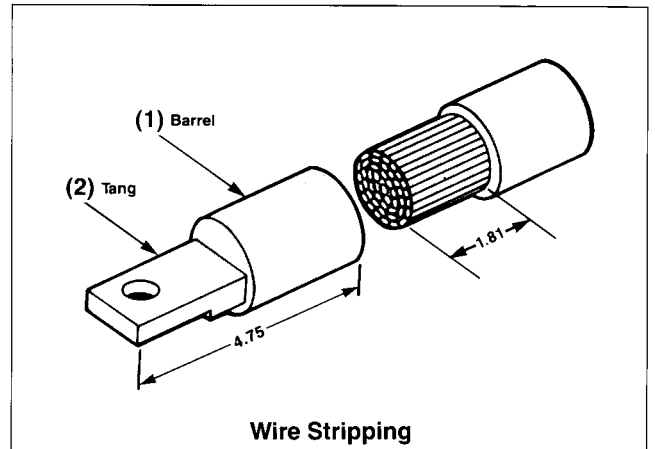

Figure 1
- D. Preform cables to final configuration and strip insulation back $1\frac{3}{16}$ in. on each conductor. Use an appropriate insulation stripping tool to avoid damaging the conductor (Figure 1).
- F. Remove cap from compression connector and insert cable fully into barrel (1) (Figure 1) of connector.
- G. Insure that connector tang(s) (2) (Figure 1) are in their proper orientation prior to crimping. This helps avoid twisting of cables during installation.